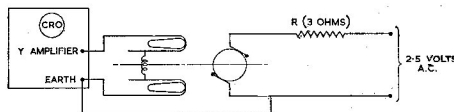

Fig. 5. Circuit diagram—determination of brush gear geometric neutral axis
(3) Carefully position the motor end casing and brush gear assembly on the field assembly and rotate until the small slot in the lower edge of the top motor end casing assembly (35) is in line with the locking key in the central block of the fixture. Press this key forward into the slot to lock the end casing in position.
(4) Position a thrust ring (37) and three thrust washers (38) on the upper bearing (36) of the motor unit. Lower the hinged top plate of the fixture and secure with the two screws. Tighten the central knurled thumbscrew so that the retaining plate is tight against the top face of the motor end casing.
(5) Insert a special brush SPE.20663 in one brush box and the locking piece SPE.20306 in the opposite box. Secure the special brush with a cheesehead screw (31) to the brush terminal tapping. Note that the end of the locking piece must locate in a commutator slot to prevent rotation of the armature.
(6) Connect up the circuit as illustrated in fig. 5 with the field leads connected to the oscilloscope and with the resisted input across the special brush as indicated.
(7) Switch the oscilloscope time base to a frequency much higher than the 2.5V supply frequency so that a rectangular trace is obtained on the oscilloscope. Slacken the fixture thumbscrew slightly so that the field assembly can be rotated until the trace attains maximum amplitude (vertical displacement) or overload. Manipulate the Y